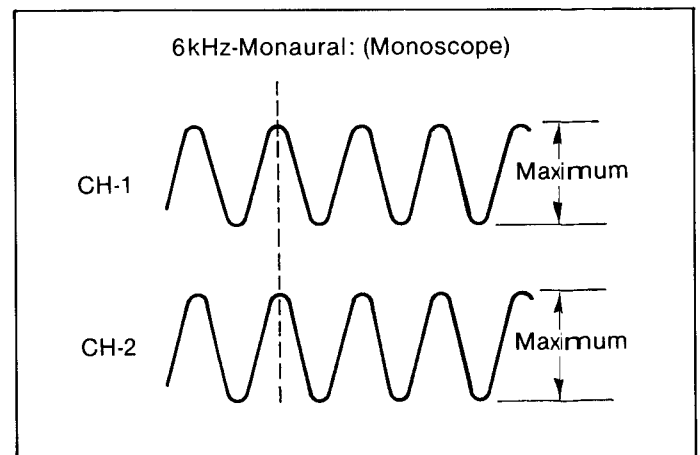

Fig. 33 Adjustment of A/C Head Height and Azimuth-(3)
1. Make sure the position of Loading Arm as Fig. 33 before proceeding this adjustment.